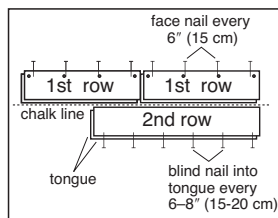

Figure 7
- Use the longest, straightest boards available for the first two rows. For random and alternating width products, use the widest plank for the first row. Align tongue of first row on chalk line. The groove should be facing the starting wall. Pre-drill 1/2 in. (13 mm) from back (groove) edge, 1-2 in. (2.5-5 cm) from each end, and at 6 in. (15 cm) intervals when possible (Figure 7). Fasten using 4 or 6d finishing nails or 1in. (2.5 cm) pneumatic finish nails/brads. Countersink the nails.